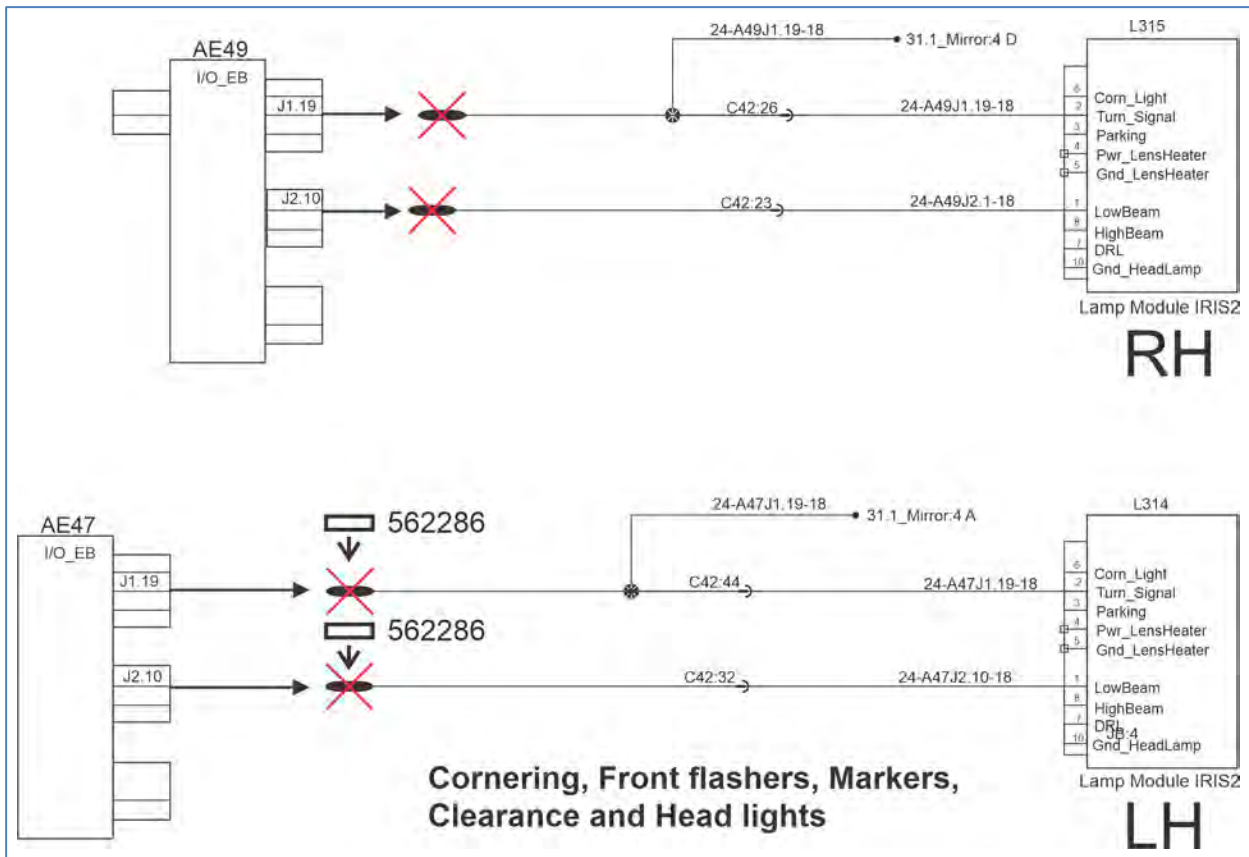

FIGURE 9
6. Disconnect the RH turn signal circuit (A49J1.19) from MUX module AE49 at J1.19. Cut and discard the terminal (Figure 9). Label this circuit "RES24B".
7. Disconnect the RH low beam circuit (A49J2.10) from MUX module AE49 at J2.10. Cut and discard the terminal (Figure 9). Label this circuit "RES23B".
8. Disconnect the LH turn signal circuit (A47J1.19) from MUX module AE47 at J1.19. Cut terminal and replace with terminal 562286 included in kit (Figure 9). Label this circuit "RES25B".
9. Disconnect the LH low beam circuit (A47J2.10) from MUX module AE47 at J2.10. Cut terminal and replace with terminal 562286 included in kit (Figure 9). Label this circuit "RES26B".